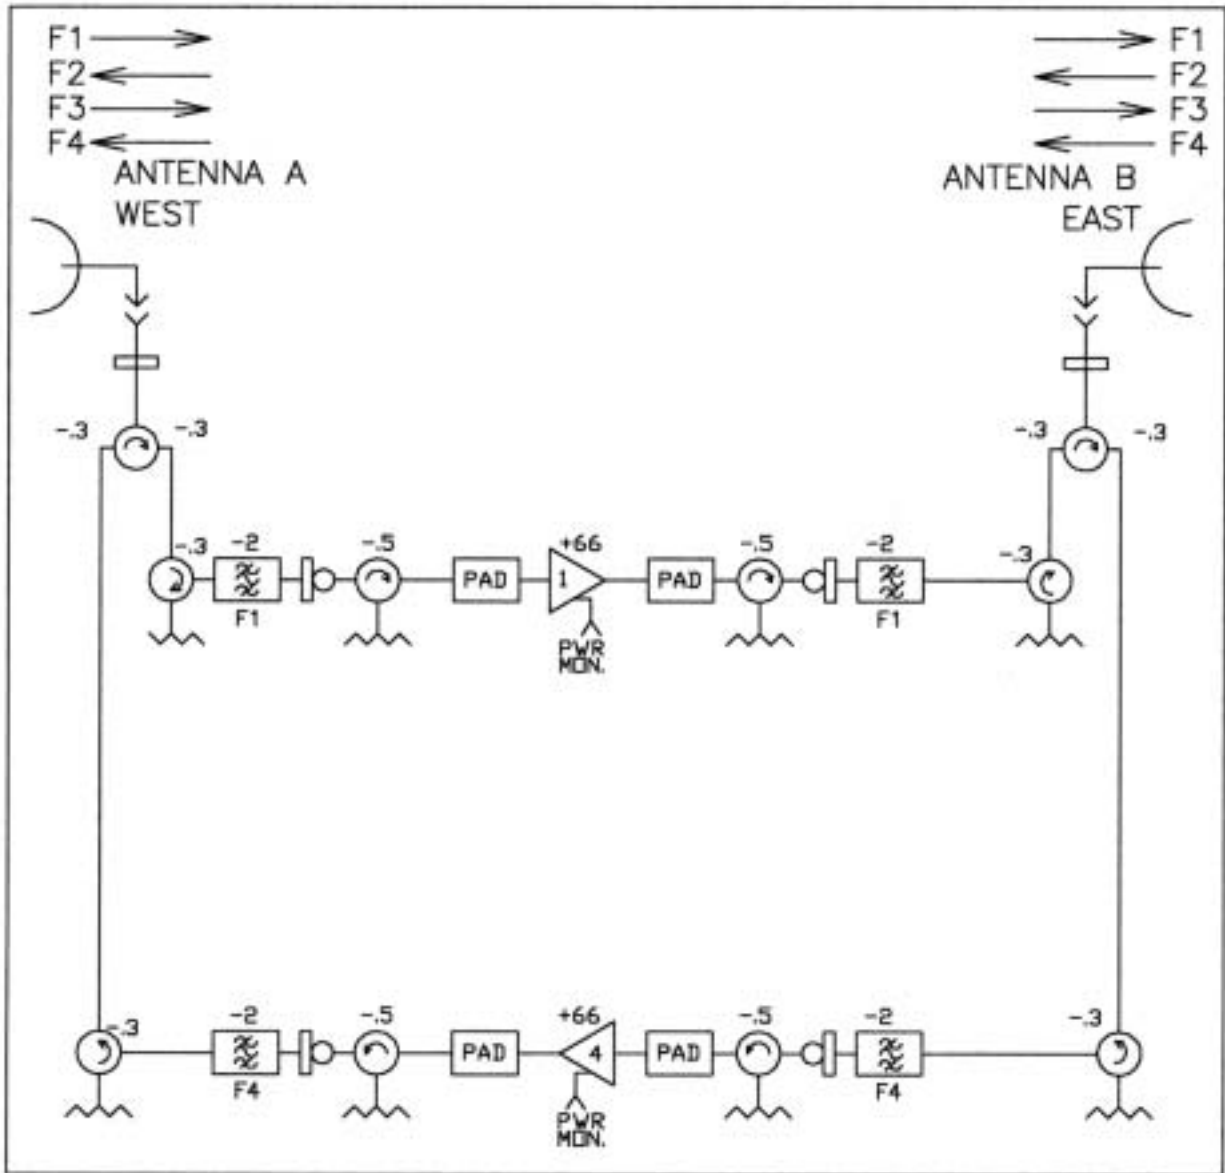
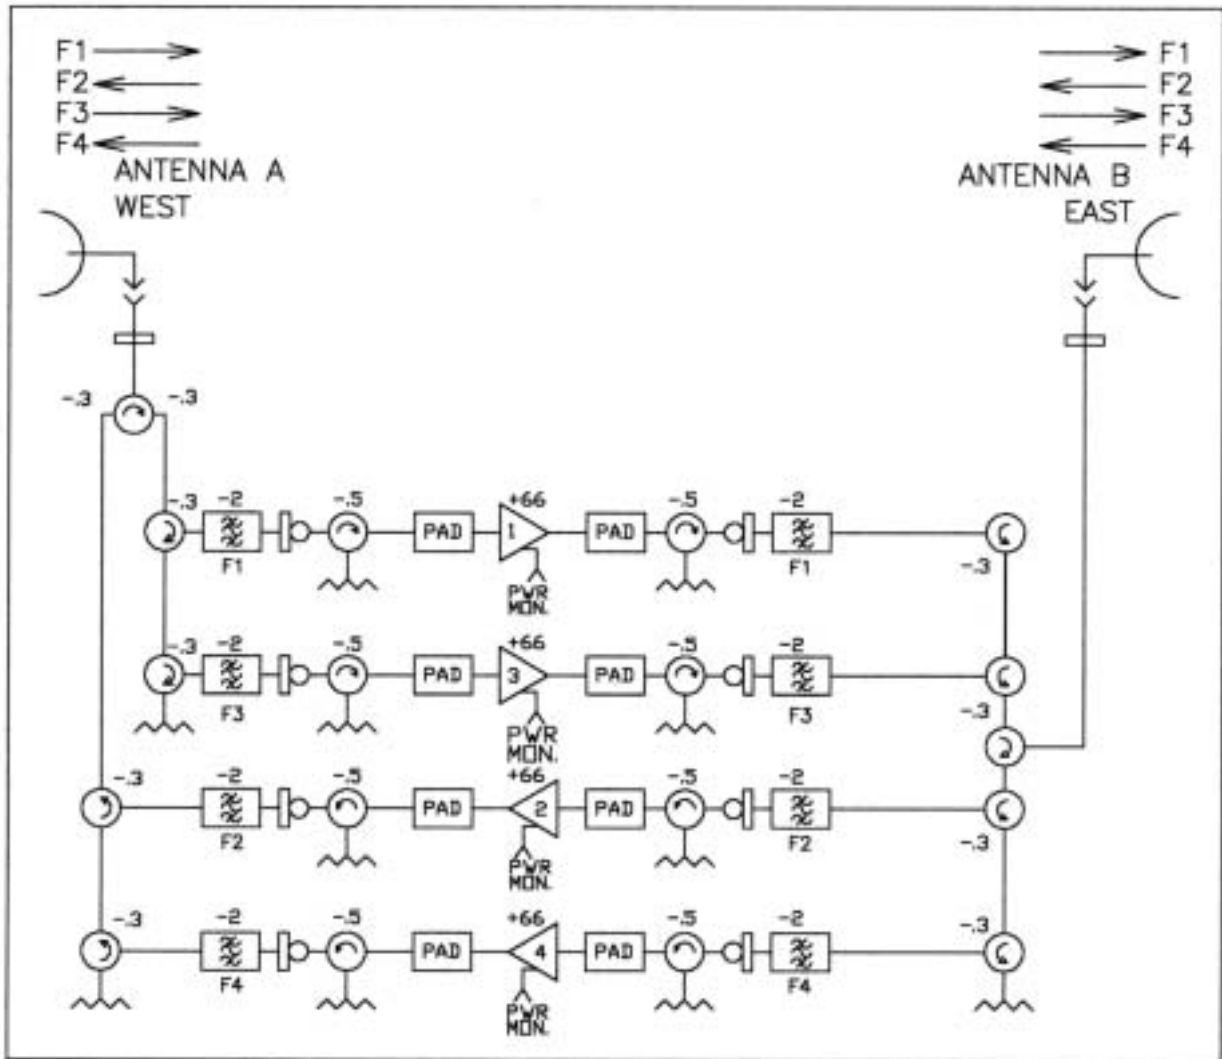

Figure 3. RF-15000-01, (1+0), Equalized (optional pads shown)
Figure 4. RF-15000-02, (1+1), Equalized (optional pads shown)
- The RF-15000 duplex repeater uses internally redundant amplifiers for transmission in each of two directions. Each amplifier is powered by two separate battery supplies for added reliability. Bandpass filters and circulators, which form a duplexer network, direct the receive signals to the amplifiers and combine the amplifier outputs to a common antenna port for transmission in each direction (see Figure 3 and Figure 4). Dual polarized antenna port repeaters are available.